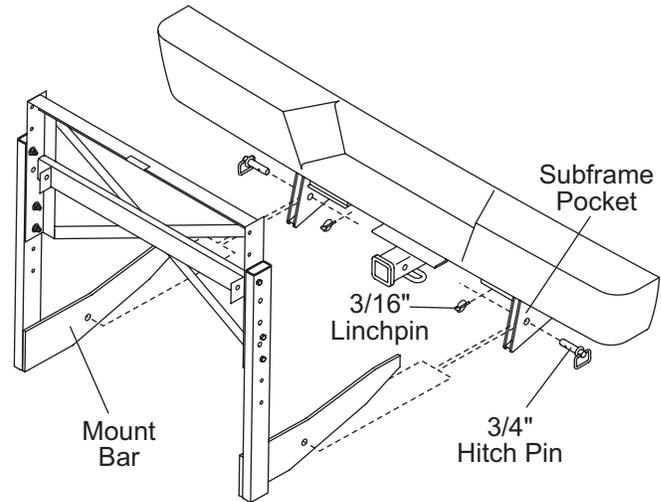

Figure 9
1. Position the secondary frame behind the truck and insert the mount bars of the secondary frame into the subframe pockets. (See Figure 9.)